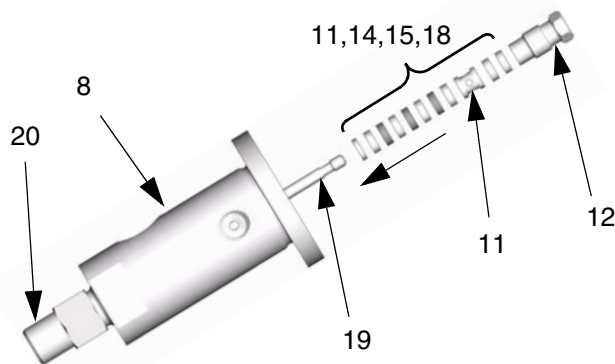
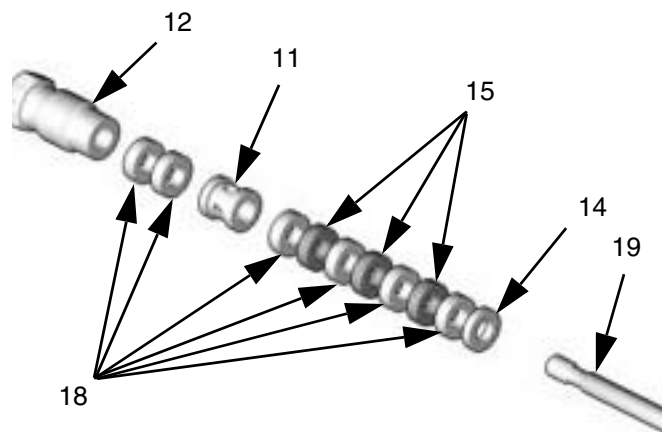

FIG. 7
FIG. 8
1. Insert the pin (19) through the valve body (8). See FIG. 7.
2. Assemble packings onto the pin (19) as shown in FIG. 7 and FIG. 8.
3. Screw the seat (20) onto the valve body (8) and torque seat (20) to 45 ± 5 ft - lbs.